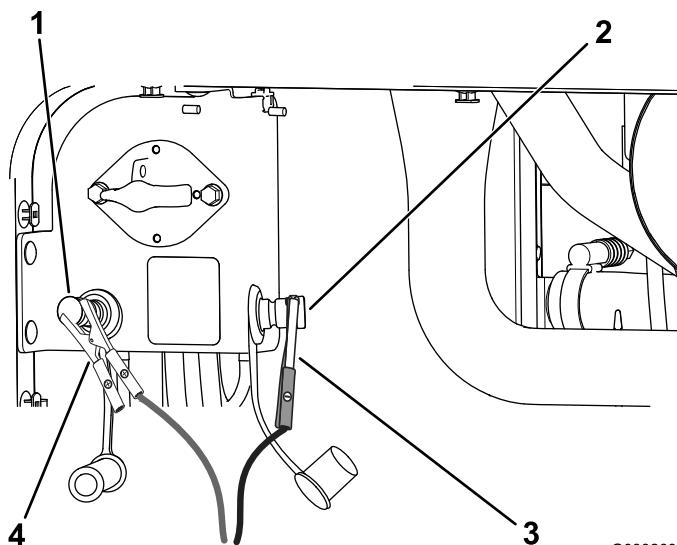

Figure 99
4. Connect the positive (+) jumper cable to the positive jump post (Figure 99).
5. Connect the negative (-) jumper cable to the negative jump post (Figure 99).
7. When the engine starts, have the other person disconnect the negative (-) jumper cable from the negative jump post and then disconnect the positive (+) jumper cable (Figure 99).